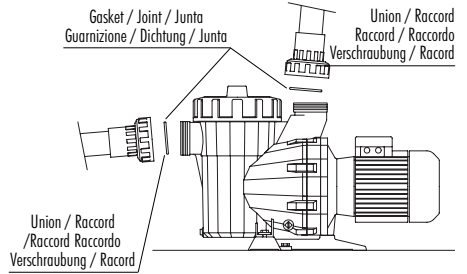

Fig. 2
- The piping must be connected by gluing it to the fittings supplied with the pump; the fitting connections to the suction and return ports on the pump are threaded and include seals to prevent water loss (Fig. 2).
- The return pipes must be fitted completely perpendicular and centred in relation to the port to be connected to prevent the pump and the pipe from being subjected to external stress that, apart from making fitting difficult, could break them (Fig. 2).
- The suction piping will be installed on a slight 2% slope towards the pump to avoid the formation of air pockets (Fig. 2).